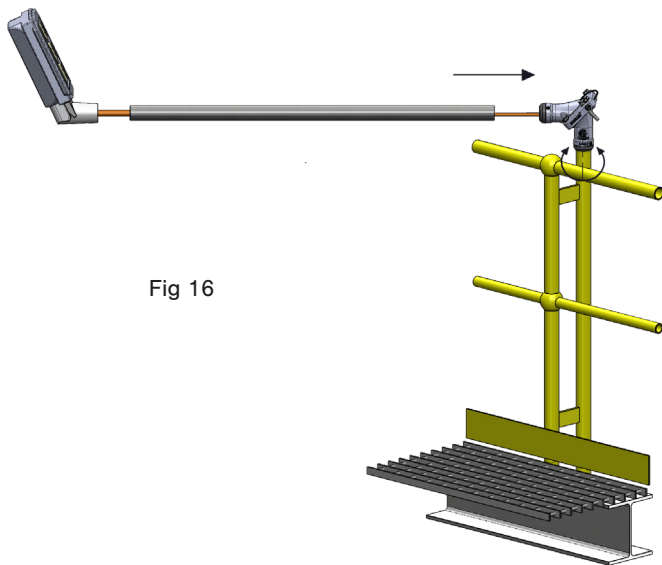

Fig 16
- Using the existing pole top or the new R2 pole top, feed through the cable and slip into the Maxis™ joint. (Fig 16)